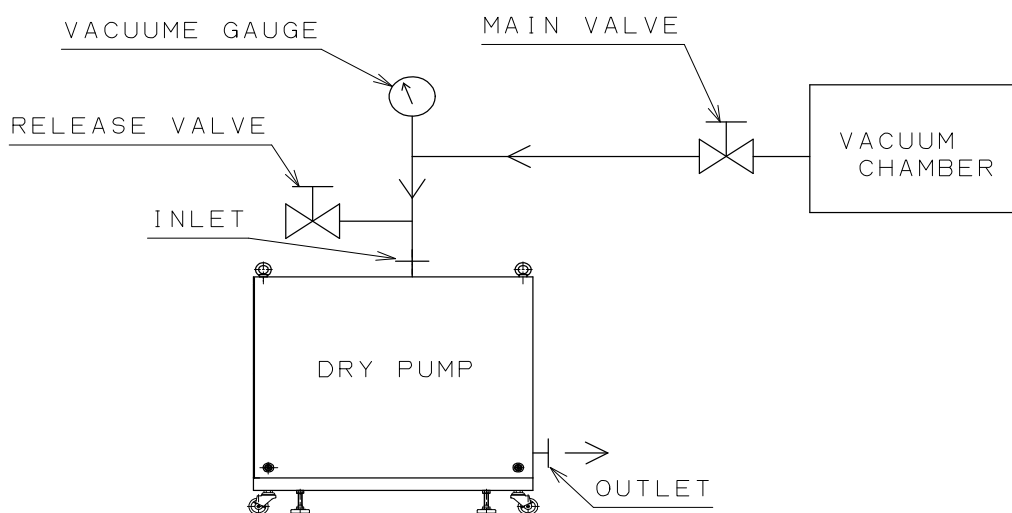

Fig. 4 Typical pump layout
- F) Install an isolation valve (Main Valve) between equipment and this pump, to prevent backflow of air to the equipment when pump stopped.(Refer to Fig. 4)
- G) Install a vent valve between isolation valve (Main valve) and pump, if gas inside of pump needs to be replaced with outside air or dried up when pump stopped. (Refer to Fig. 4)
(1) Should the Pump sucked the water or substance such as dust, powder and so on, it would impair the ultimate pressure and further cause a trouble.
(2) Metal mesh on the Suction inlet is put to keep large foreign substances such as bolt away from the Pump unit. Be sure not to take it off unless necessitated so to check it. Contact the nearby service center when if drop foreign substance (ex. bolt) into the inlet at the pump, and if suction of foreign substance (ex. solid or powder smaller than metal mesh), since it is necessary to disassemble the pump to remove. May the pump stops when driving as it is.
(3) Be careful not to damage O-ring seat surface. Do leak test of the entire system after assembly of the piping. (Do not pressurize greater than 50KPaG to the pump)